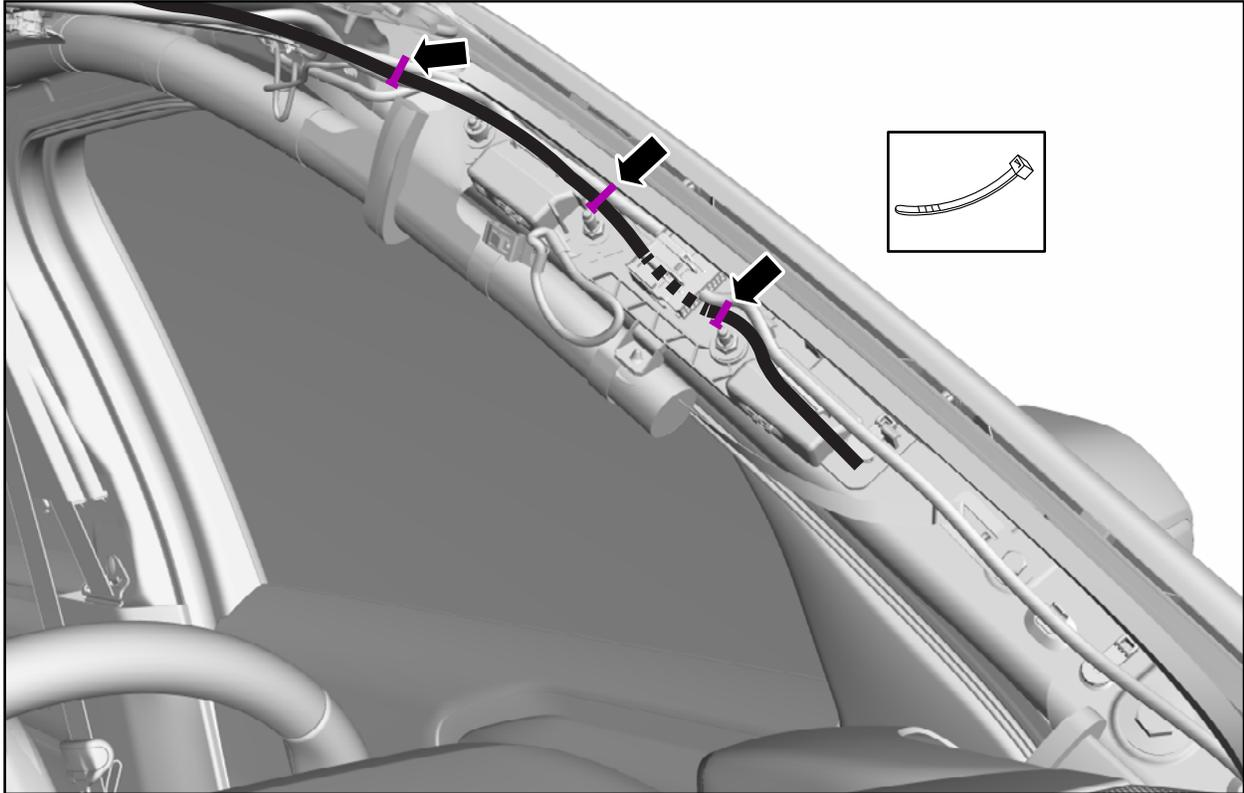

FIGURE 40
40. Route the wiring from the light bar downwards along the LH A-pillar. See Figure 40.